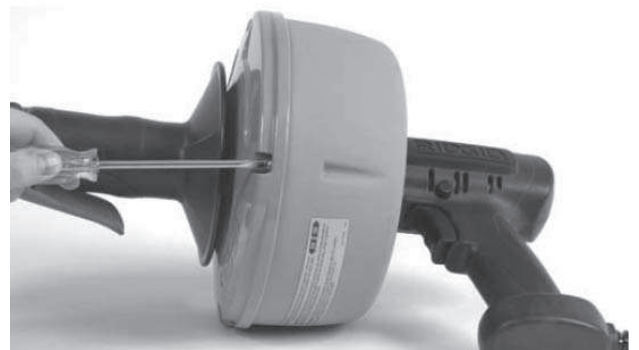

Figure 6 – Loosen Four (4) Screws From Back Half of Canister About Three (3) Full Turns
2. Loosen the four (4) screws that hold the canister front half to the back half. Loosen each screw 3 (three) full turns (*Figure 6*).